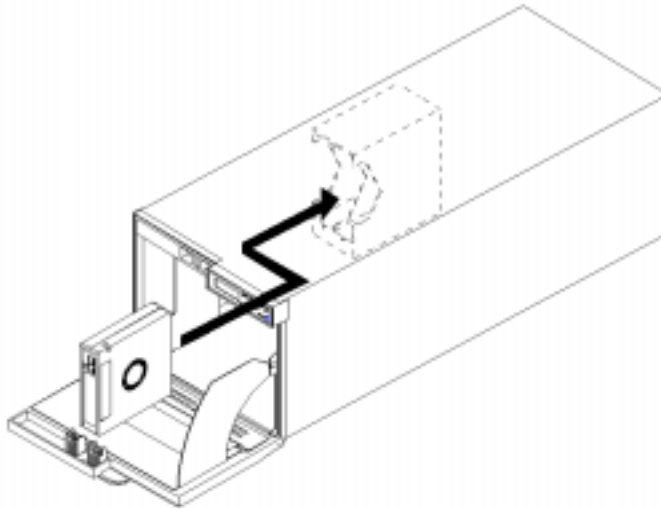

FIGURE 2-3 Internal Slots
The magazine must be removed to load the internal slots (FIGURE 2-3).
3. With the magazine handle facing out the front of the Autoloader, slide the magazine into the Autoloader until it “clicks” into place (FIGURE 2-3 on page 2-3).